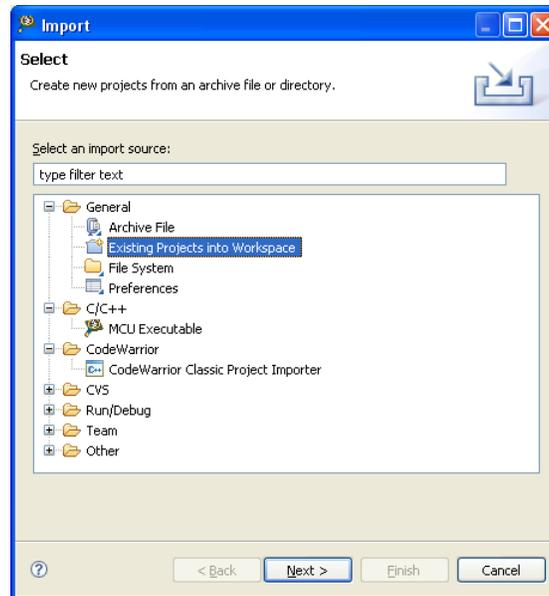

Figure 3-19. CodeWarrior Import Existing Project into Workspace
3. Select Existing Projects into Workspace as shown in Figure 3-19.